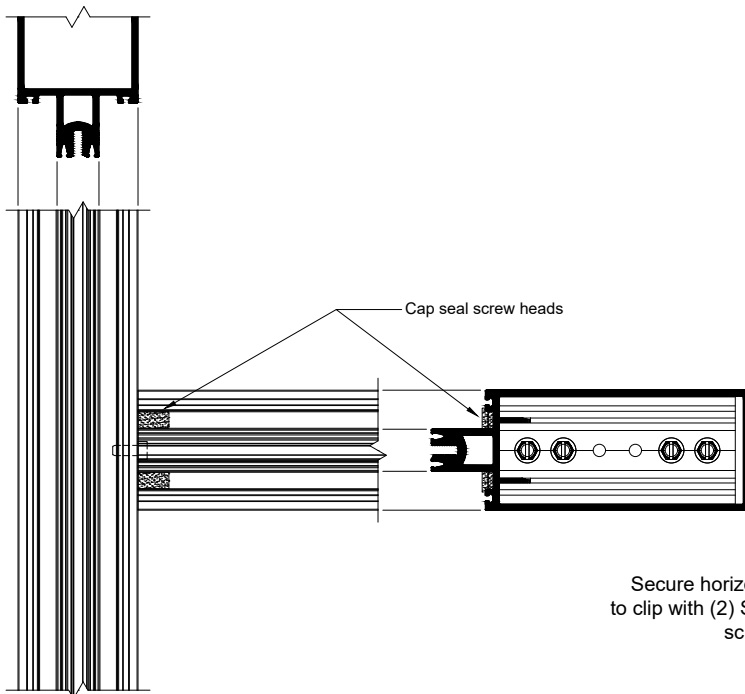

Fig.30.2
- B. Seal the ends of the horizontal back member and attach to the shear block using S270 screws. Seal the heads of the screws as shown in **Fig.30.2**.